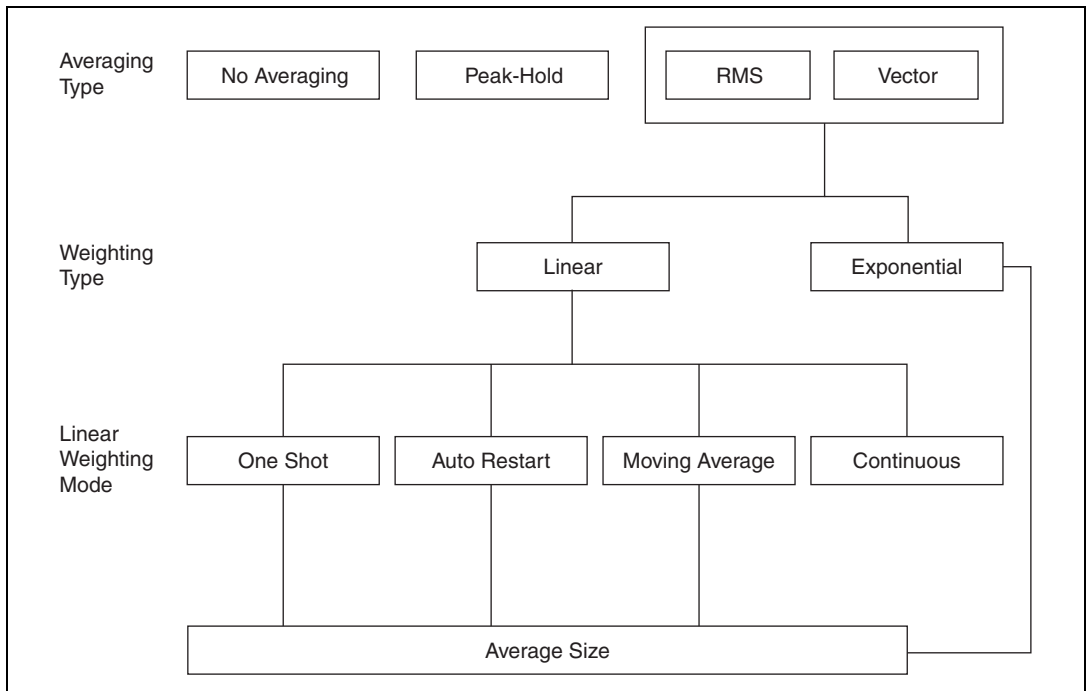

Figure 1-18. RFS Demo Panel Spectrum Averaging Options
4. The **Averaging Type** controls specify averaging applied to returned data. Figure 1-18 illustrates the hierarchy of options for spectrum averaging.